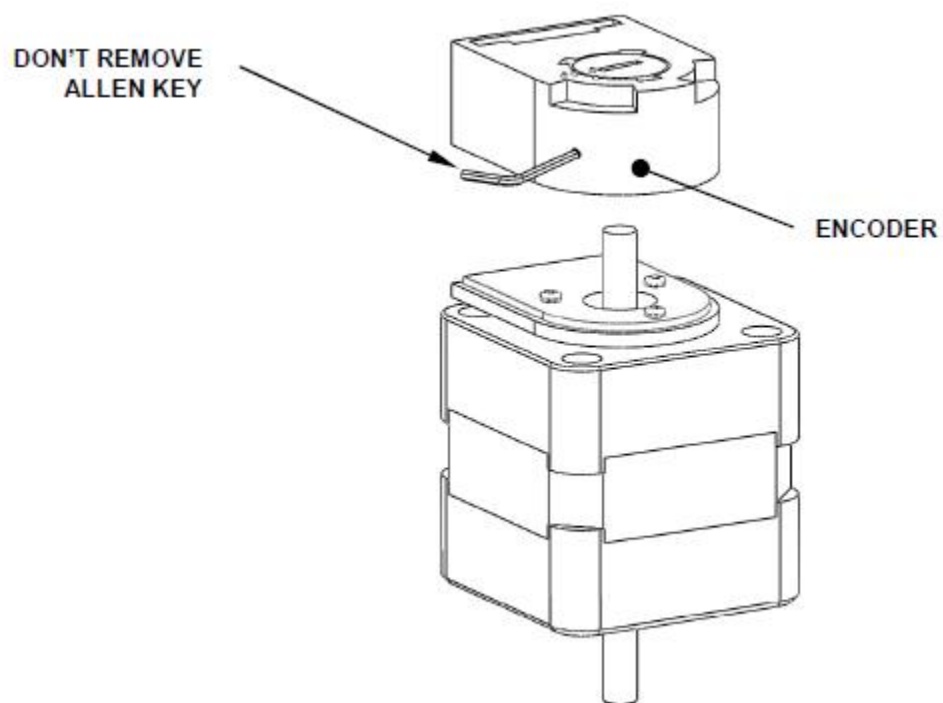

Figure P-11: Mounting the Encoder
2. Install the main part of the Encoder onto the Mounting Plate by snapping it in place (Figure P-11).